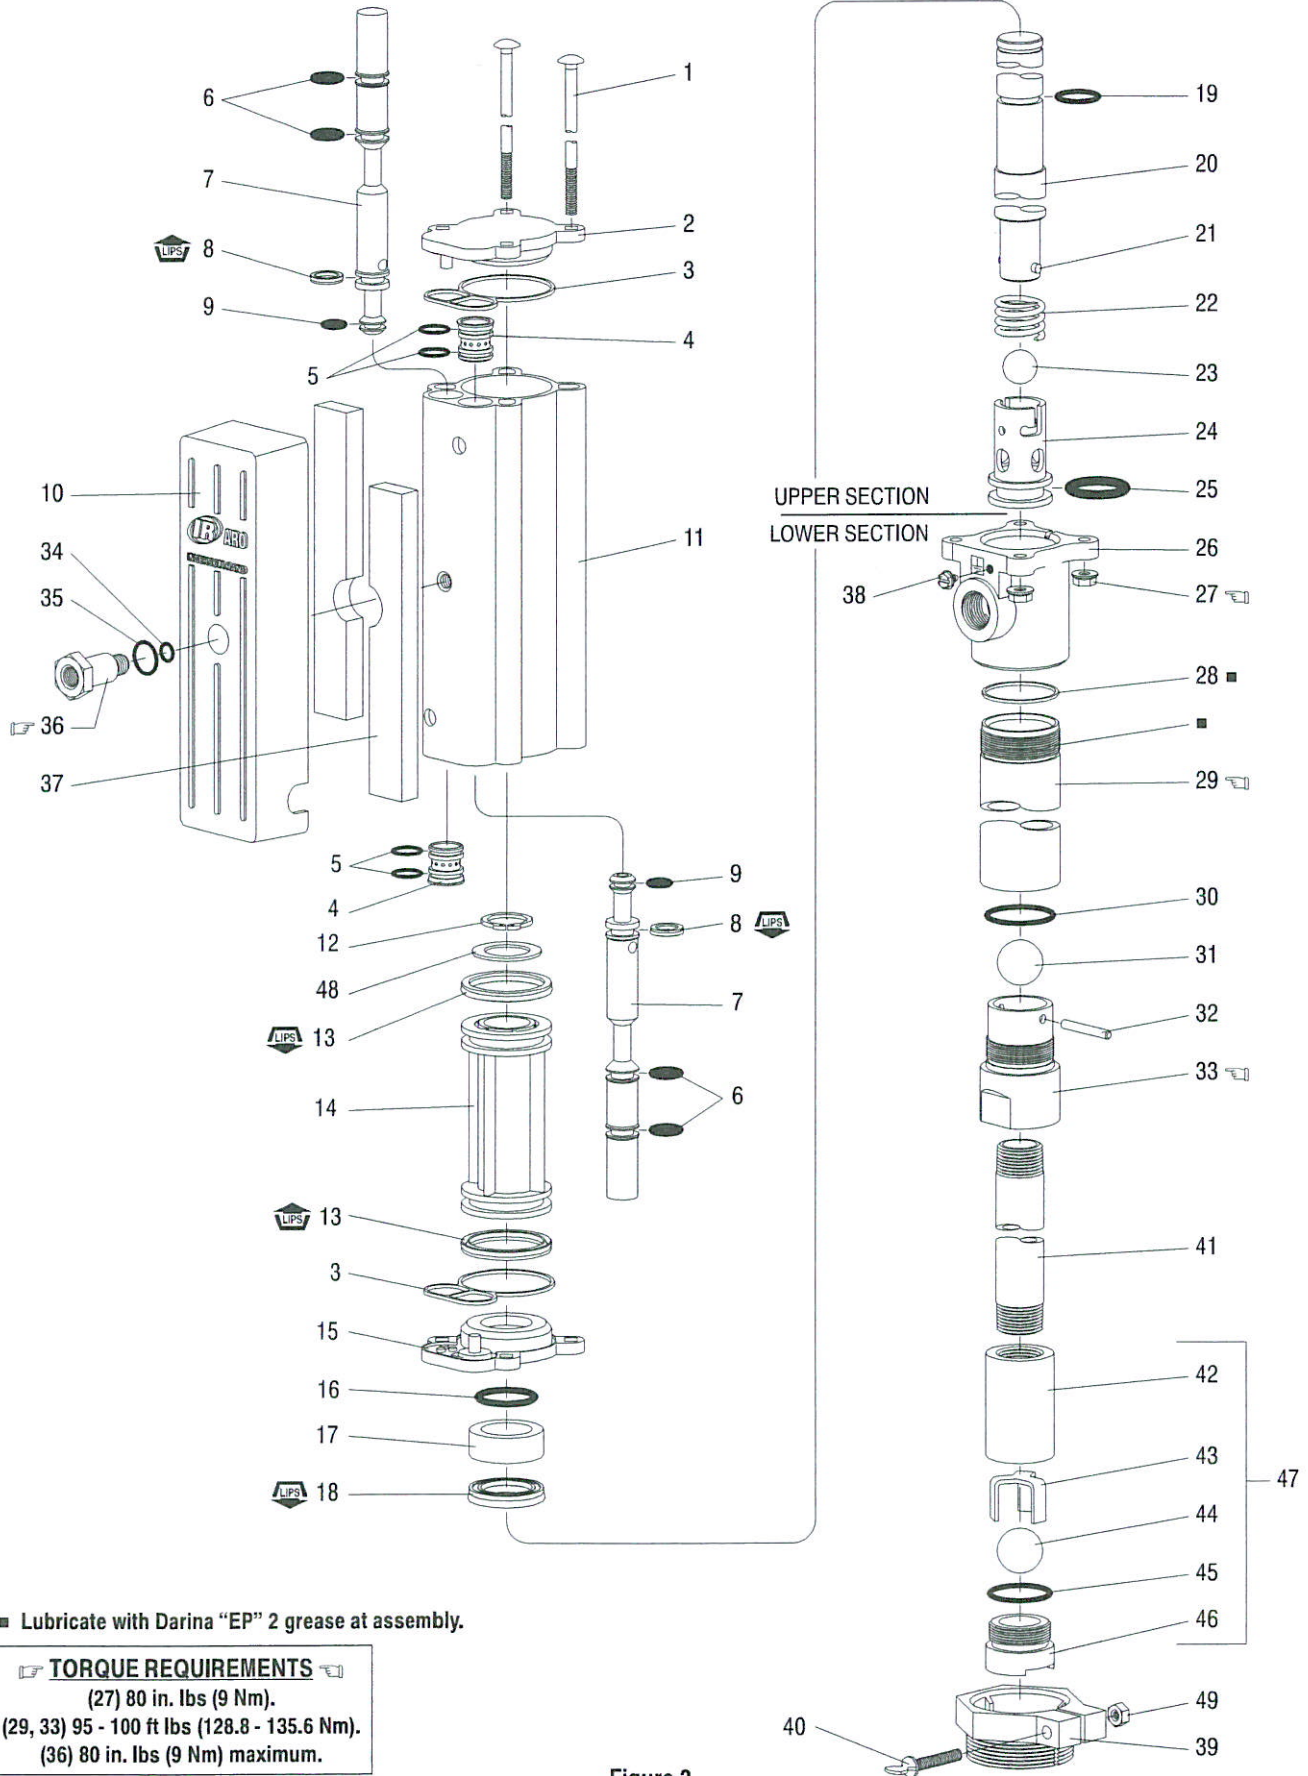

Figure 2
NOTICE: The unique design of this pump allows for quick basic pump service without total removal from the drum (refer to the views below). **DISASSEMBLY – All threads are right hand. Refer to figure 2. These procedures are for the installation of repair kit parts. Disconnect air supply and relieve all system pressure prior to servicing.** Carefully remove the parts, inspect parts for damage, nicks or excessive wear and determine if any parts will need replacement.
Note: Refer to the illustration (figure 2) for "U" cup lip seal direction.
1. Replace the seals on both the (7) spools and (4) sleeves.
2. Locate the valve chamber on the (11) cylinder where the 3/8" dia. hole is located and install one of the (4) sleeves. Insert the (7) spool from the opposite end. Next, install the remaining sleeve and spool.
3. Replace the (3) track gasket and install (2) cap.
4. Replace the (13) piston "U" cups (refer to figure 2 for proper orientation). Replace the (19) "O" ring and assemble (14) piston to (20) piston rod and retain with (48) washer and (12) retaining ring.
6. Replace the (3) track gasket and install the (15) cap. Install the (16) "O" ring onto the piston rod, replace (17) bushing and (18) packing.
7. Replace the (25) "O" ring and re-attach the (24) inner check.
8. Slide the pump assembly back into the (26) base / lower pump section. Press the sections together and align the air inlet and pump outlet as required and replace the four (1) bolts and (27) nuts (tighten to 80 in. lbs (9 Nm)).